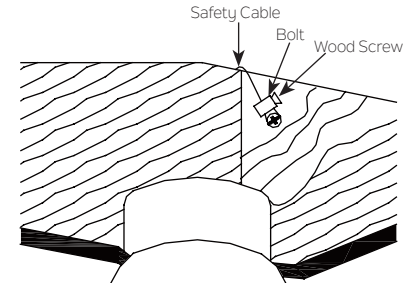

Fig. 8
Step 2. Insert the safety cable through the mounting bracket and one of the holes in the outlet box into the ceiling. Adjust the length of the safety cable to reach the screw and washers by pulling the extra cable through the cable clamp until the overall length is correct, put the end of the cable back through the cable clamp, forming a loop at the end of the cable. Tighten the cable clamp securely. Now, put the loop in the end of the safety cable over the wood screw and under the washer. Tighten the wood screw securely. (Fig. 8)